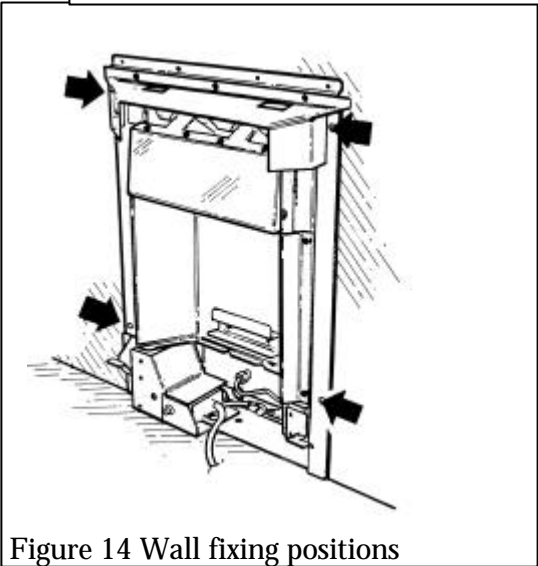

Figure 14 Wall fixing positions
7.4 For fixing the unit to the wall (see figure 14):